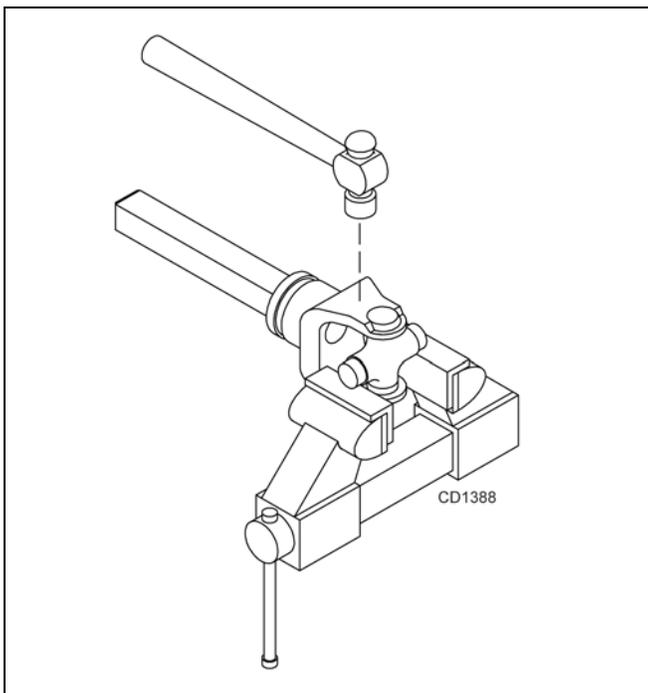

Figure 26
4. Place universal cross in vise as shown in Figure 26 and tap on yoke to remove cup. Repeat Step 3 for final removal. Drive remaining cup out with a drift and hammer.